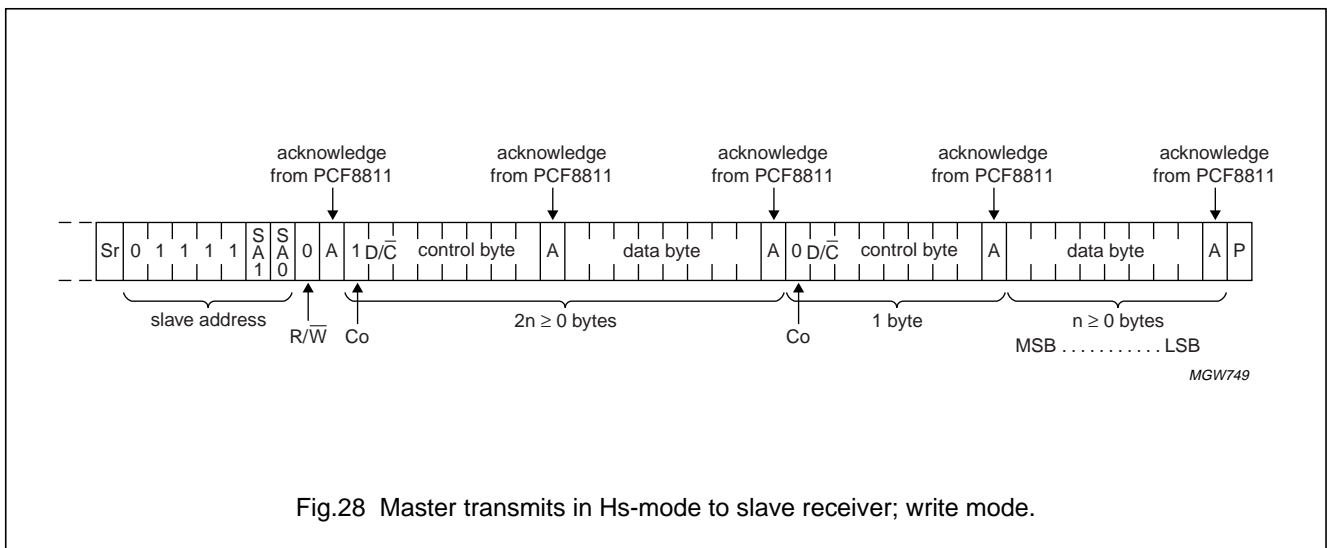

Fig.28 Master transmits in Hs-mode to slave receiver; write mode.
A write sequence after the Hs-mode is selected is illustrated in Fig.28. The sequence is initiated with a START condition (S) from the I²C-bus master which is followed by the slave address. All slaves with the corresponding address acknowledge in parallel, the remainder will ignore the I²C-bus transfer.
After the acknowledgement cycle of a write (\bar{W}), one or more command words will follow which define the status of the addressed slaves. A command word consists of a control byte, which defines C_o and D/\bar{C} , plus a data byte (see Fig.28 and Table 4).